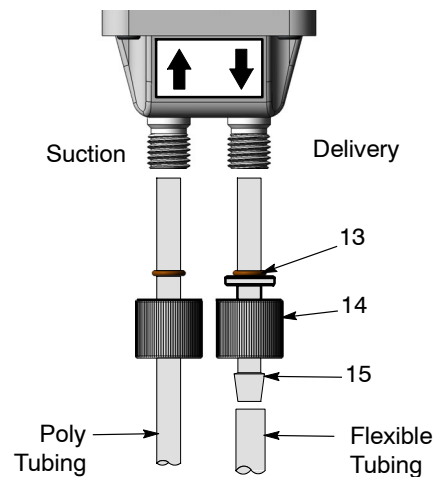

Figure 10 Barbed Tube Adapter Installation
8. See Figure 10. Remove the nut (14) and O-ring (13) from the pump delivery port (rear).
9. Install the O-ring on the straight end of the new barbed tube adapter (15).